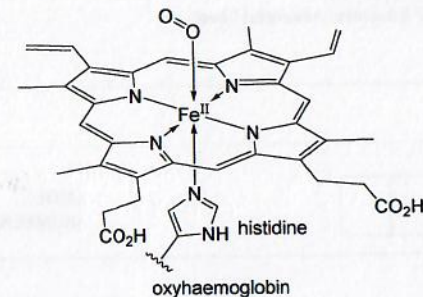

Fig. 2.1
2 (a) Gaseous molecules, such as CO and O_2 , can bind to central Fe^{2+} ion in the porphyrin-iron(II) system of haemoglobin to form carboxyhaemoglobin and oxyhaemoglobin (shown in Fig. 2.1) respectively. In this binding process, water or another histidine molecule is also incorporated into the sixth coordination slot of the central Fe^{2+} ion.